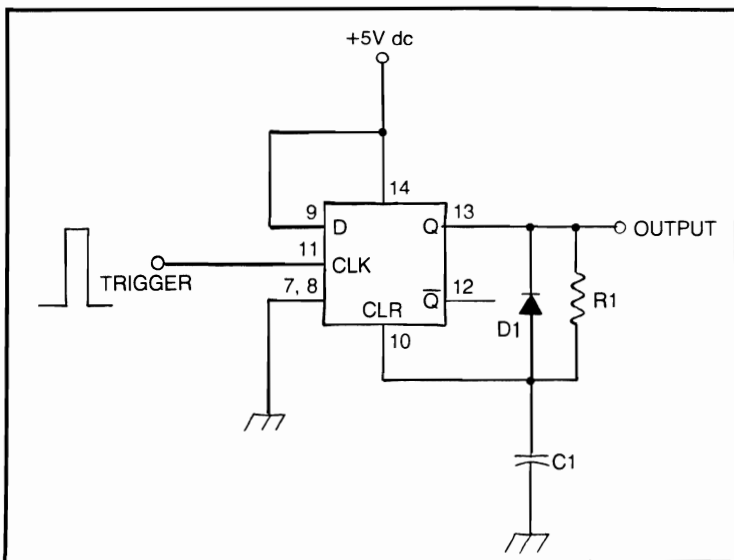

Fig. 1-29. CMOS 4013 type-D flip-flop as a monostable multivibrator circuit.
An example of a monostable multivibrator built from a CMOS type-D flip-flop is shown in Fig. 1-29. Recall the rules for the type-D flip-flop: (1) when  $D$  is high, a high is transferred to the  $Q$  output when the clock line goes high, and (2) when the clear line goes high the  $Q$  output is forced low.
The operation of the one-shot circuit in Fig. 1-29, is as follows: